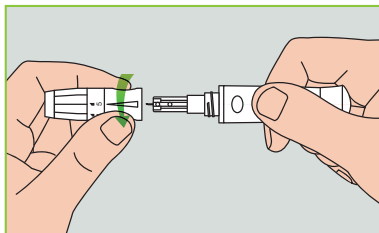

Figure 88
**3** Carefully install the lancing device cap onto the lancing device, avoid touching the lancet needle tip (Figure 88).